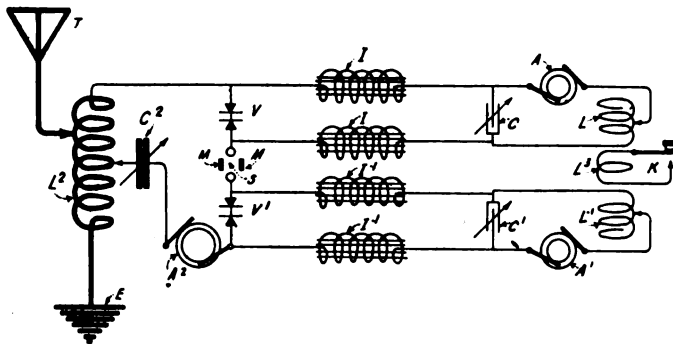

Figure 1—The fundamental circuit of the Roos wireless system for wide range of tone frequencies
**METHODS** of operating a wireless system over a wide range of tone frequencies devised by Oscar Roos are shown in the diagrams, figures 1 to 6.
The fundamental circuit is shown in figure 1. A condenser C-2 is connected in series with an inductance L-2 and a radio frequency alternator A-2, for which may be substituted, if desired, an arc generator of the Poulsen type. A spark gap S is included in the circuit, which may be placed in the field of a magnet M or in a vessel containing a compressed gas. Two trigger valves or arresters V and V-1 are connected on either side of the spark gap. These arresters may be an ordinary spark gap, a quenched spark gap, or two oppositely arranged rectifiers such as a point and plate